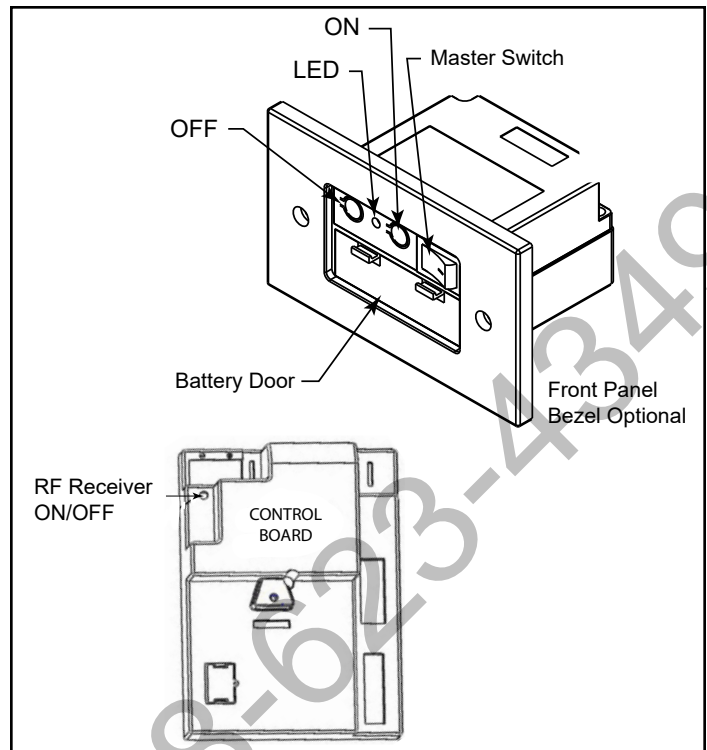

Figure 62 - Command center and control board
- The RF receiver button on the control board in the stove must be in the ON position before the learn function can begin. With the Command Center master switch in the ON position, use paper clip to depress the recessed button on Control Board, one beep for RF receiver ON or two beeps for RF receiver OFF. Figure 62
- Holding the OFF button on the Command Center while turning on the master switch will activate the learn function for the transmitter. Figure 62